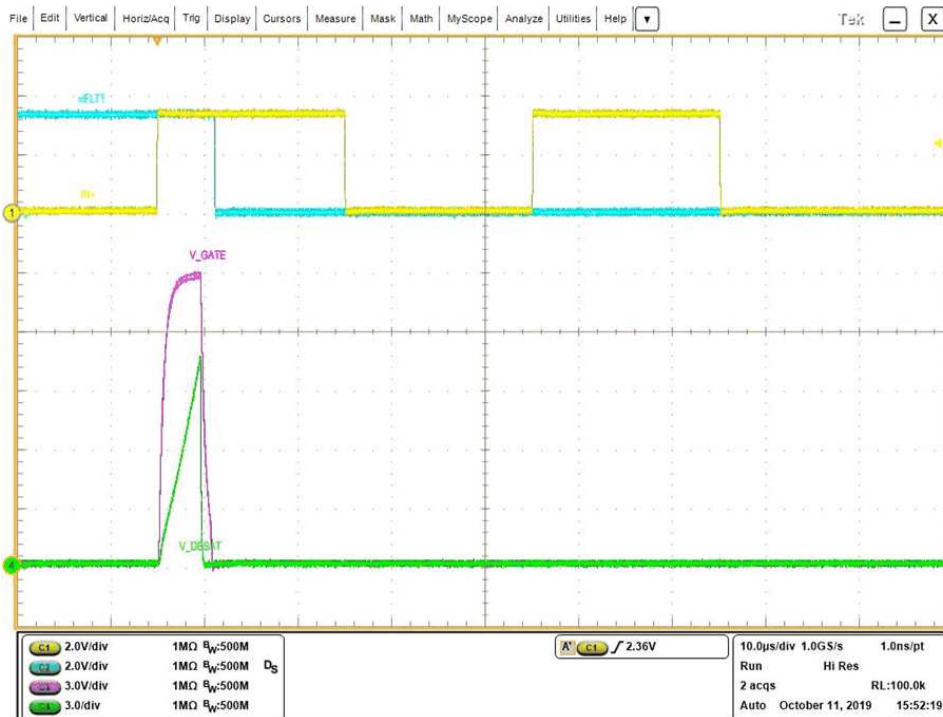

Figure 20. DESAT Fault Test Waveforms
17. Figure 20 shows the waveforms of the Desat fault, CH4 is the desat pin voltage, when it reaches about 9.5V, the fault is triggered and nFLT1 pin is pulled low.